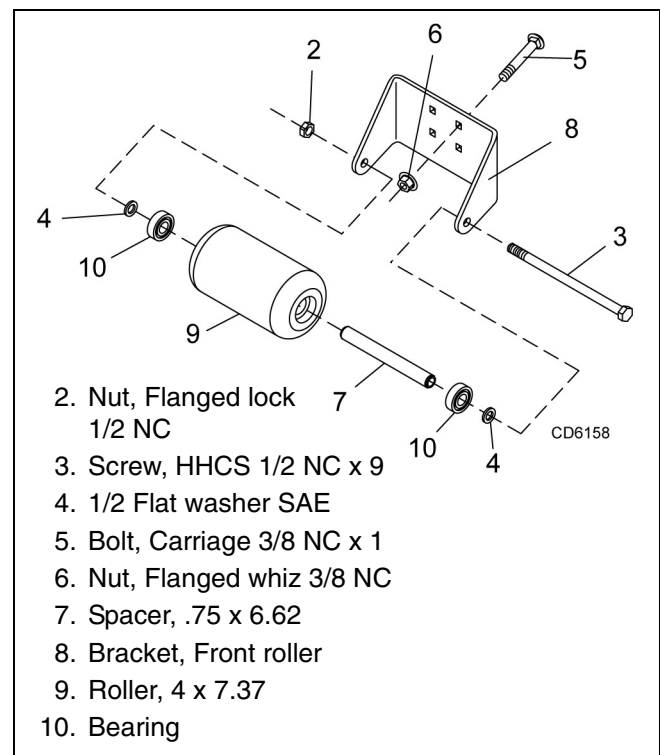

Figure 31. Front Roller Installation
See Figure 31.
1. Insert four carriage bolts (5) through the front mower frame from inside out.
2. Place roller bracket (8) over bolts; then install flange whiz nuts (6) on bolts and tighten.
3. Place front roller (9), two bearings (10), spacer (7) and two SAE flat washers (4) between roller bracket as shown in Figure 31.
4. Insert cap screw (3) through bracket and roller.
5. Secure with flanged lock nut (2). Do not over-tighten; roller must spin freely.